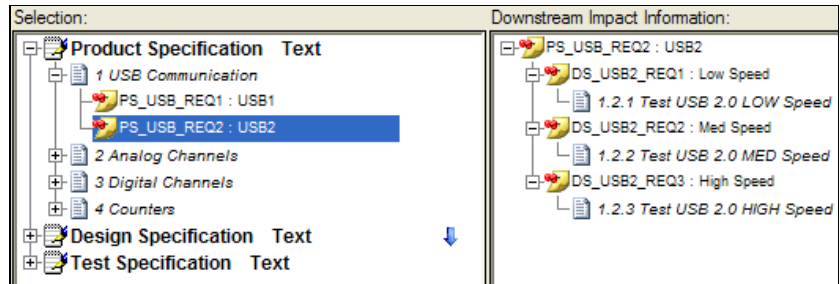

Figure 4-13. PS_USB_REQ2 Downstream Impact Analysis
- Select the **PS_USB_REQ2** requirement as shown in Figure 4-13. The Downstream Impact Information column displays the non-derived requirements from the covering Design Specification document, but also the sections from the Test Specification document that cover the non-derived requirements.